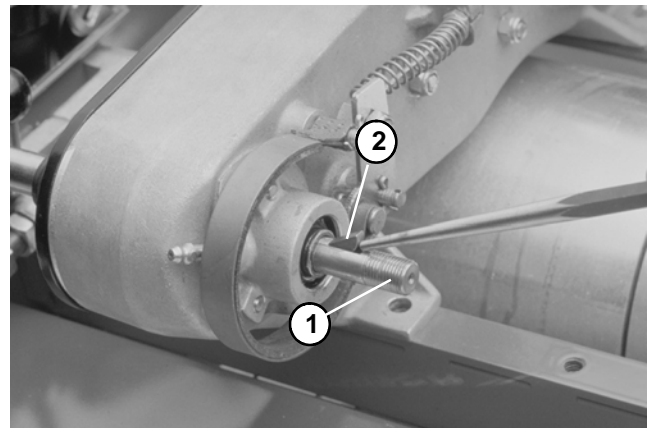

Figure 56
9. Remove shaft input pulley from the power shaft. Remove key from shaft with drift punch (Fig. 56).
- A. Apply anti-seize lubricant to the power shaft keyway area. Reinstall key to shaft keyway (Fig. 56).